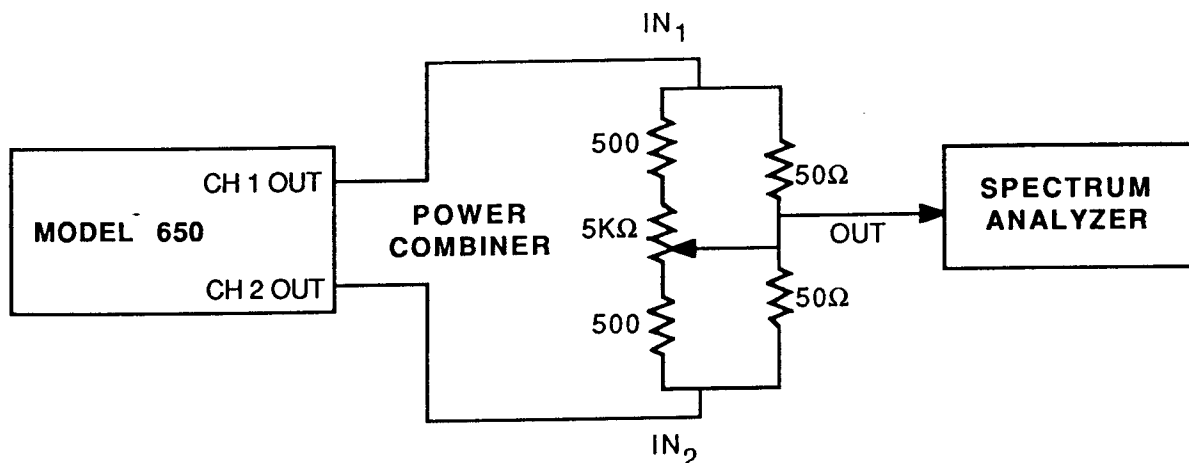

Figure 3-1. 180° Phase Verification Setup
- Equipment Power combiner (shown in figure 3-1), HP 3580A or similar spectrum analyzer, one matching pair of equal length (4 feet maximum) BNC cables.